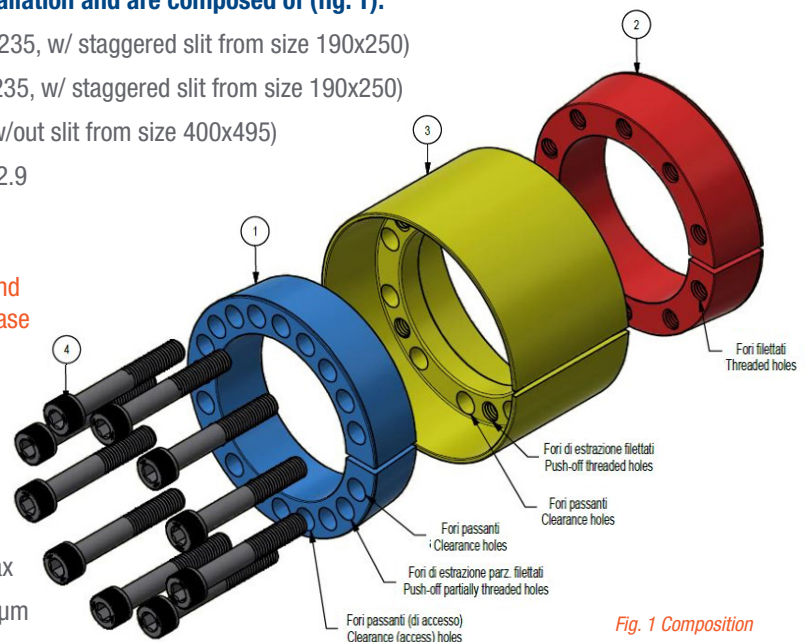

Fig. 1 Composition
**Locking Assemblies MAV 1008 are supplied ready for installation and are composed of (fig. 1):**